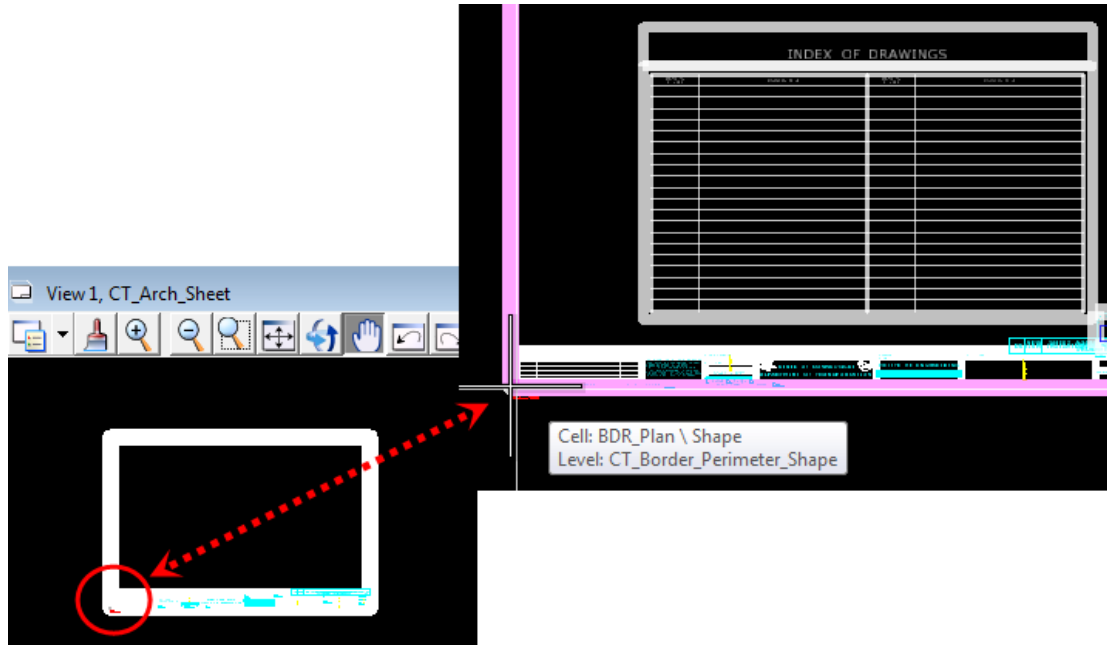

Figure 94 - Subset Cover Sheet
- Place the cell origin at the bottom left corner of the plan border. (Figure 94)